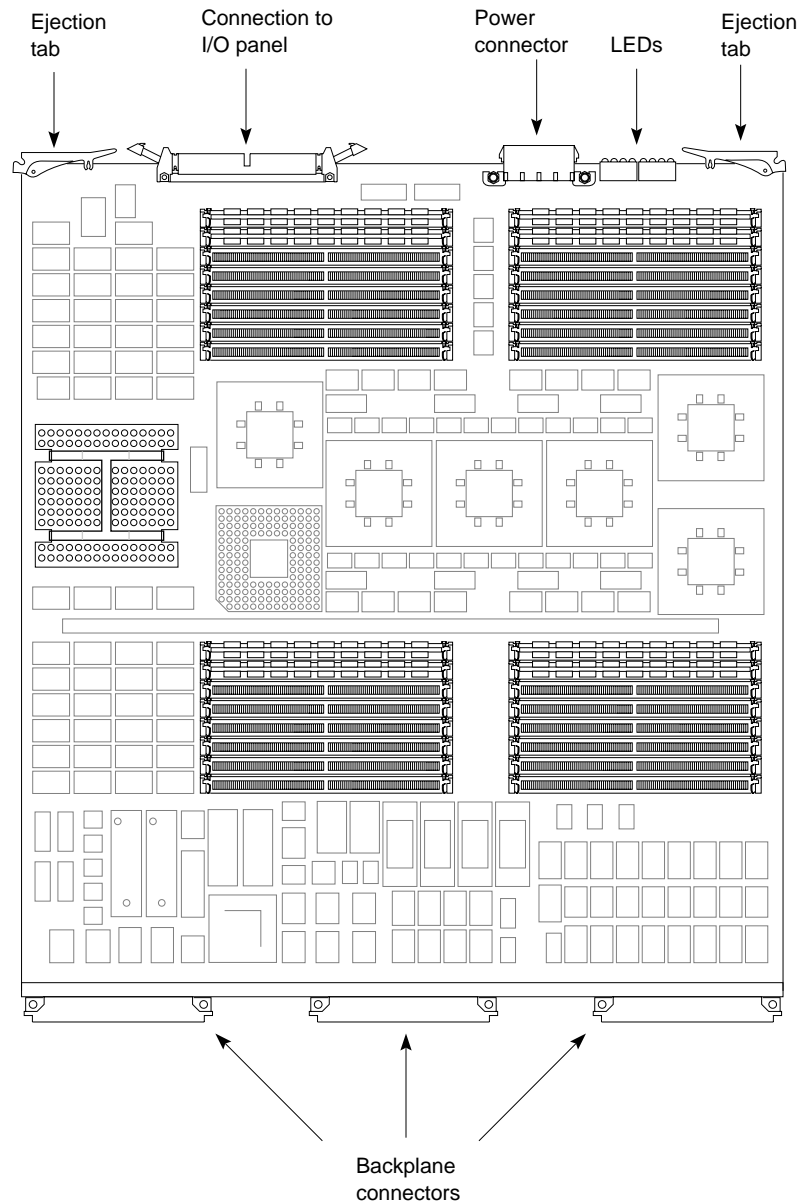

Figure 1-2 Connectors and Indicators
- Figure 1-2** Connectors and Indicators1-4
The IP17 board has a total of 32 SIMM sockets that can accept either 2MB or 8 MB SIMMs. The board also has three backplane connectors, a 64-pin ribbon cable connector, and power and status indicators as shown in Figure 1-2.